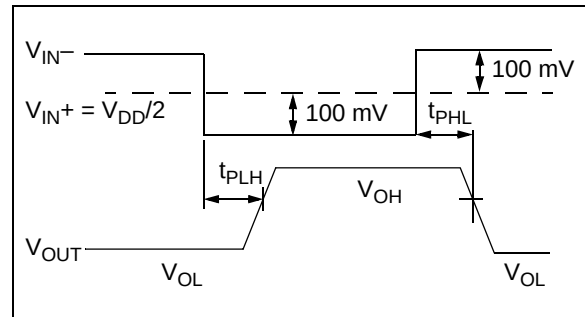
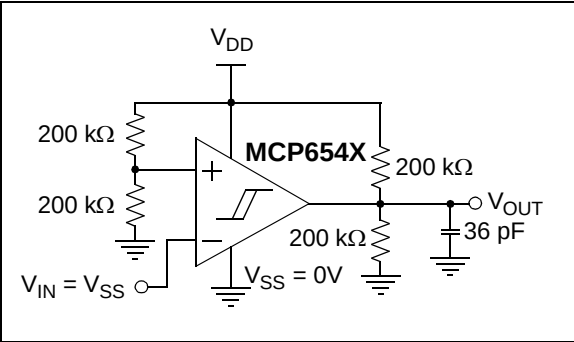

**FIGURE 1-2:** Propagation Delay Timing Diagram.
**FIGURE 1-3:** AC and DC Test Circuit for the Push-Pull Output Comparators.
**Electrical Specifications:** Unless otherwise indicated,  $V_{DD} = +1.6V$  to  $+5.5V$ ,  $V_{SS} = GND$ ,  $T_A = +25^{\circ}C$ ,  $V_{IN+} = V_{DD}/2$ ,  $V_{IN-} = V_{SS}$ , and  $R_L = 100\text{ k}\Omega$  to  $V_{DD}/2$  (Refer to Figure 1-3).
**Electrical Specifications:** Unless otherwise indicated,  $V_{DD} = +1.6V$  to  $+5.5V$ ,  $V_{SS} = GND$ ,  $T_A = +25^\circ C$ ,  $V_{IN+} = V_{DD}/2$ ,  $V_{IN-} = V_{SS}$ , and  $R_L = 100\text{ k}\Omega$  to  $V_{DD}/2$  (Refer to Figure 1-3).
**Electrical Specifications:** Unless otherwise indicated,  $V_{DD} = +1.6V$  to  $+5.5V$ ,  $V_{SS} = GND$ ,  $T_A = +25^\circ C$ ,  $V_{IN+} = V_{DD}/2$ , Step = 200 mV, Overdrive = 100 mV, and  $C_L = 36\text{ pF}$  (Refer to Figure 1-2 and Figure 1-3).